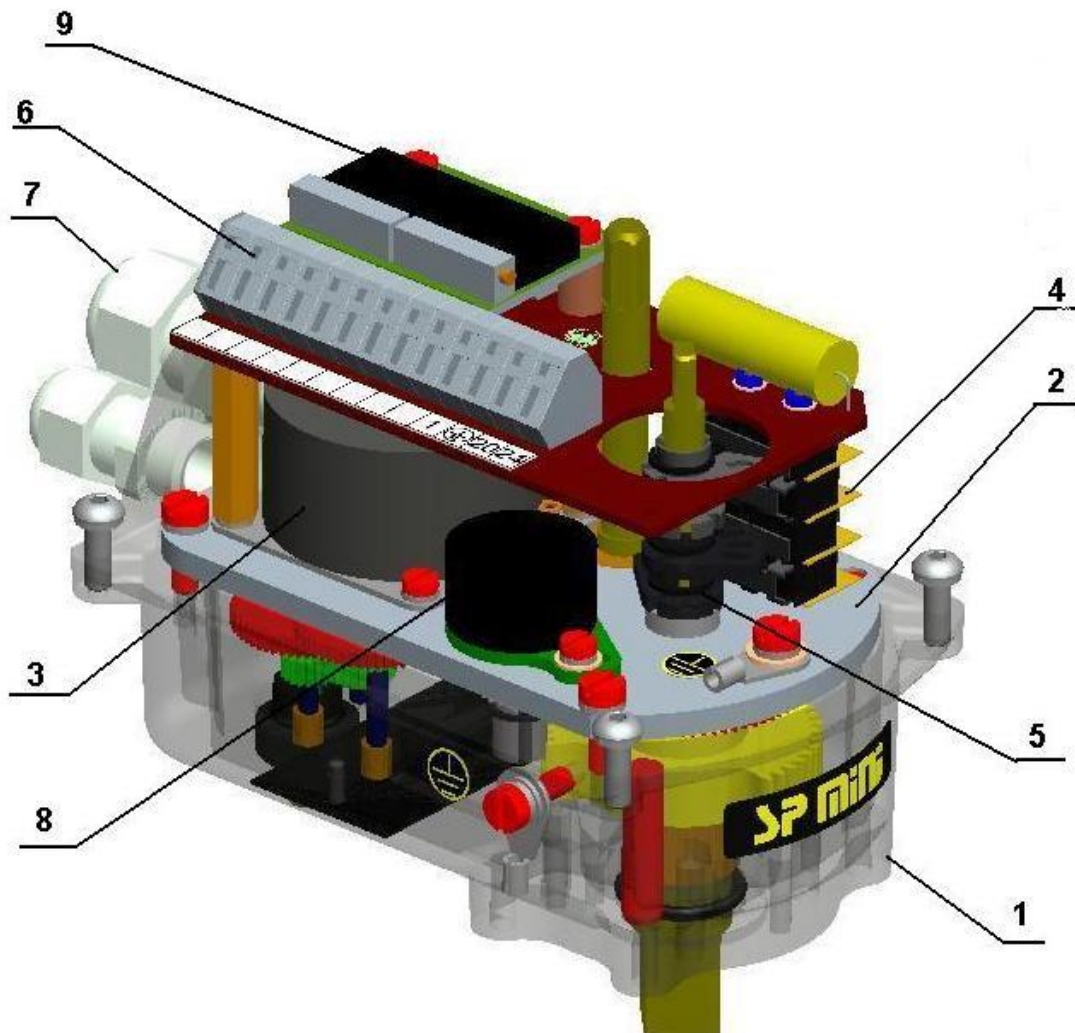

Fig.1
The actuator is driven with synchronous electric motor (3) (Fig. 1) from which is the torque transferred through the spur gear train located between the bottom case (1) and the control panel (2) representing the base of the actuator. The gear train is equipped with a mechanism for disengagement in case of manual control of the actuator. The electric motor is controlled directly with position switches (4) switched by turning of cams (5) placed directly on the output shaft leading from the gear board to the control part. The control panel can be optionally equipped also with the terminal board for electric motor connection, the terminal board for transmitter connection (6) and a resistive transmitter (8). On the external EA housing is located the cable leads (7). The external side of the bottom case is located the earthing clamp and the disengagement button.